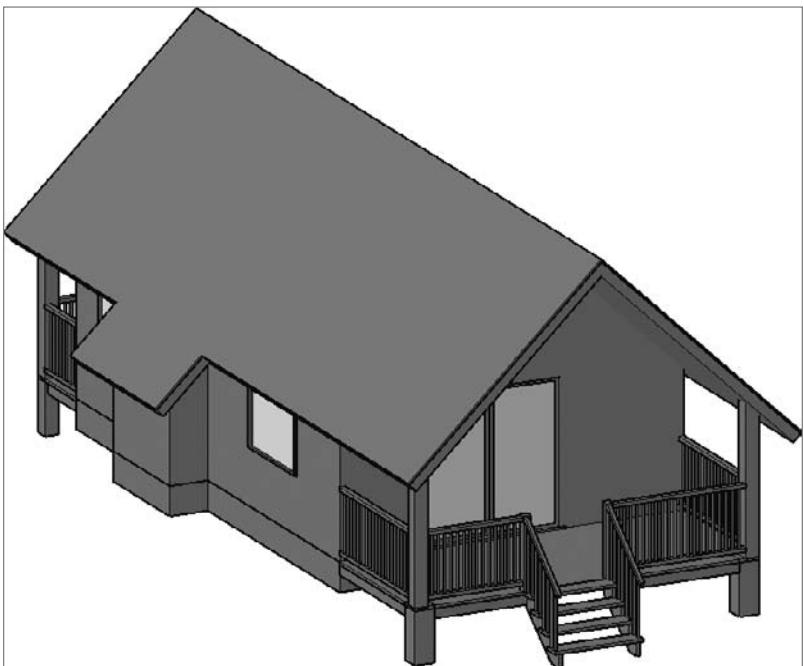

FIGURE 16.91 The completed cabin
11. Your completed cabin should look like Figure 16.91.